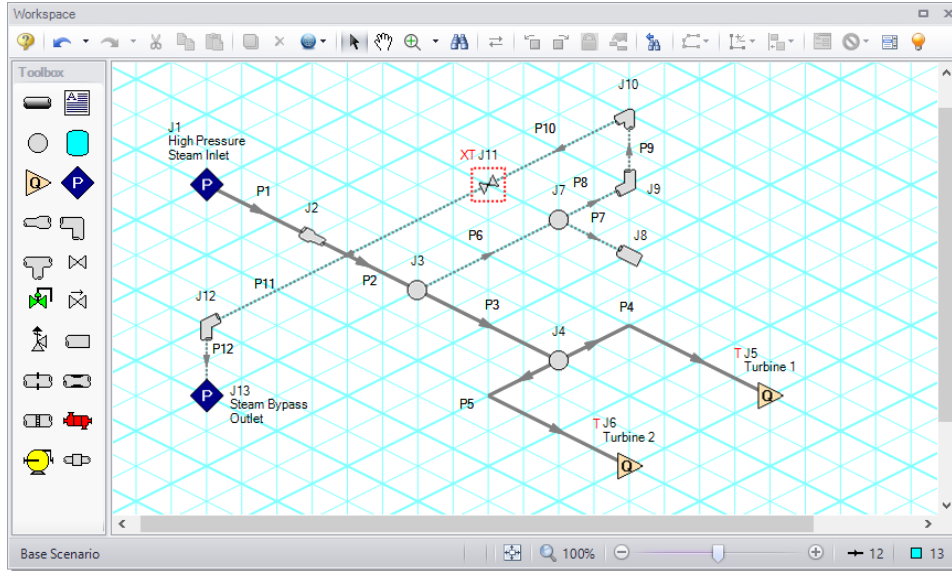

Figure 1: The isometric layout with the grid shown
3. Place the junctions as shown in Figure 1